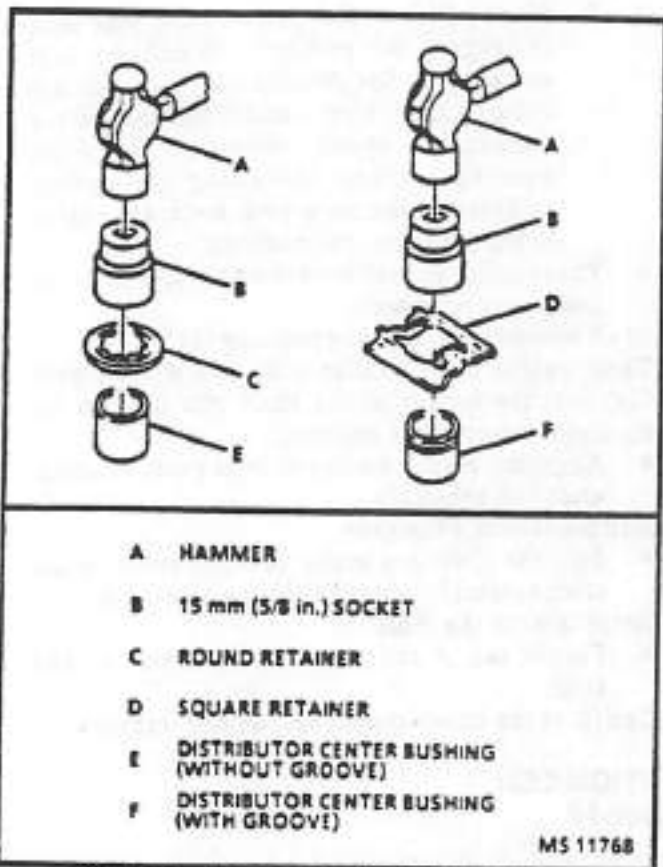

Figure 13 - Retainer to Shield Installation
- 1. Ignition module (10) to the housing (4) with two screws.
- 2. Pickup coil (7).
- 4. Shield (6) onto the coil.
- 5. Retainer (5) onto the shield.
- Use a new round retainer if the center bushing in the distributor base has no groove around the outside (Figure 13).
6. Shaft assembly (4) into the housing (11).
7. Tang washer (12), washer (13), and driven gear (14) onto the bottom of the shaft (distributors for six and eight-cylinder engines).
8. Roll pin (15) into the gear.
9. Rotor (3) onto the shaft.